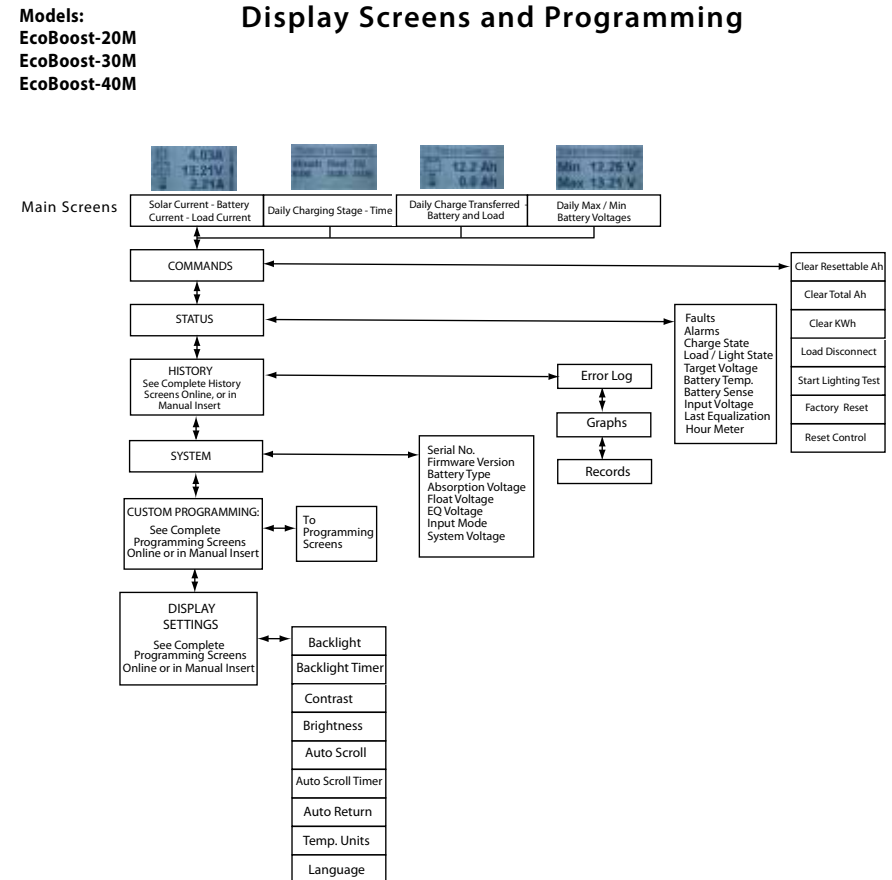

Figure 4-2. Simplified Meter Map.
- Extensive settings adjustment and information as shown partially in Figure 4-2 below.
The display setting options, as shown in Figure 4-2, are adjustable by using the directional keys to locate and edit a desired setting or variable.